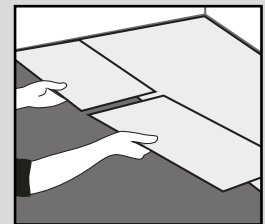

Fig. 4a
- Install the next plank/tile by lifting the edge of the previous plank easing the tongue and groove together on the end joint, then slide in the long side which can then be tapped into position with an "off cut of material" or tapping block. (Fig. 4a, 4b & 4c). Tiles and planks should be installed "off-set" such that their four corners never meet (Fig. 5a and Fig. 5b).